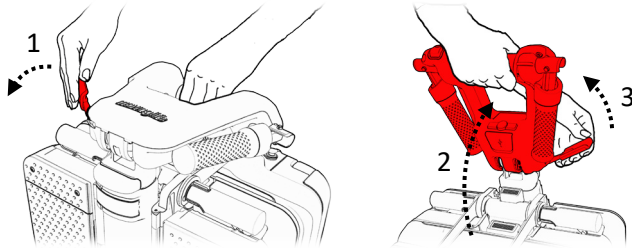

Figure 4
2. Release the adjustment lever of the handle bar (1) and bring the handle bar to an upright position (2), then bring the lever back to its secured position (3). (see Figure 4).